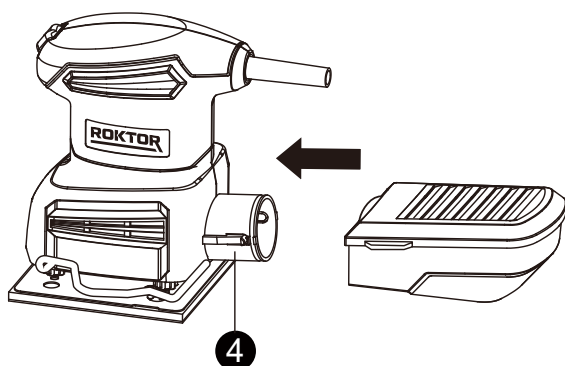

Figure 3
4. Dust extraction outlet (See Fig. 3)
2. USING THE DUST BOX (SEE FIG. 3)